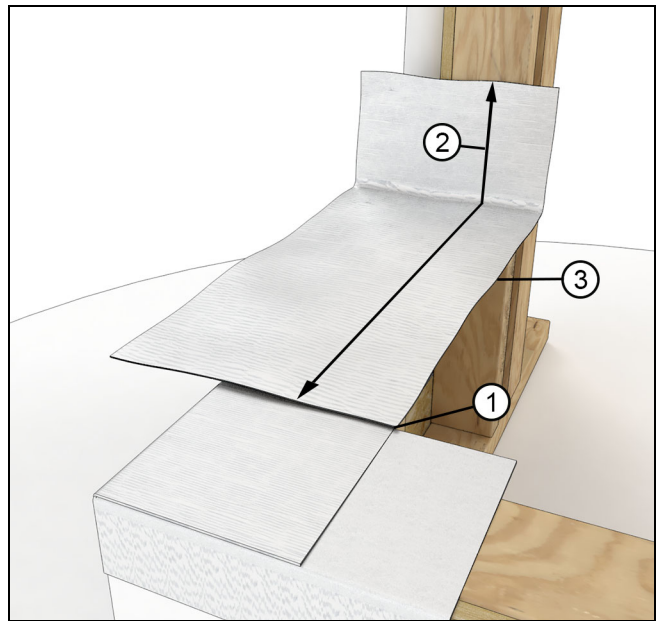

Figure 22
9. Apply the flexible flashing to the sill leg starting about 6" (152) from the corner. Lap the flashing up the side jamb. Repeat on the opposite side. See Figure 22.